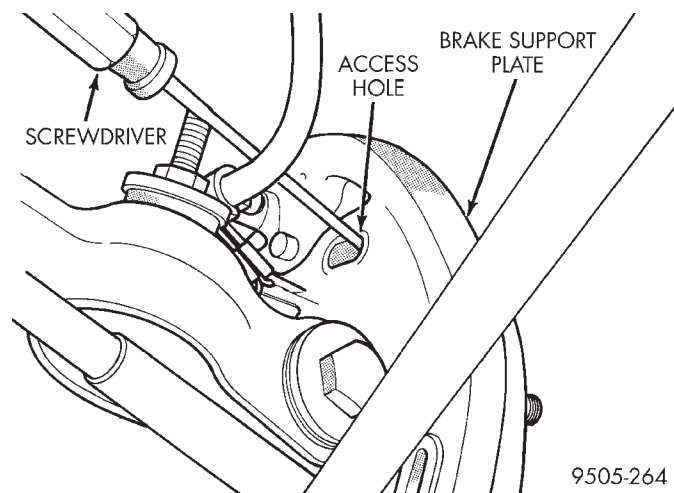

Fig. 57 Backing Off Rear Brake Shoe Adjustment
(2) Insert a screwdriver, through the automatic adjuster access hole, in the rear brake support plate (Fig. 57). Engage screwdriver with the teeth on the adjuster mechanism quadrant. Then rotate quadrant so that the teeth on the quadrant are moved toward the front of the vehicle (Fig. 57). This will back off the adjustment of the rear brake shoes.